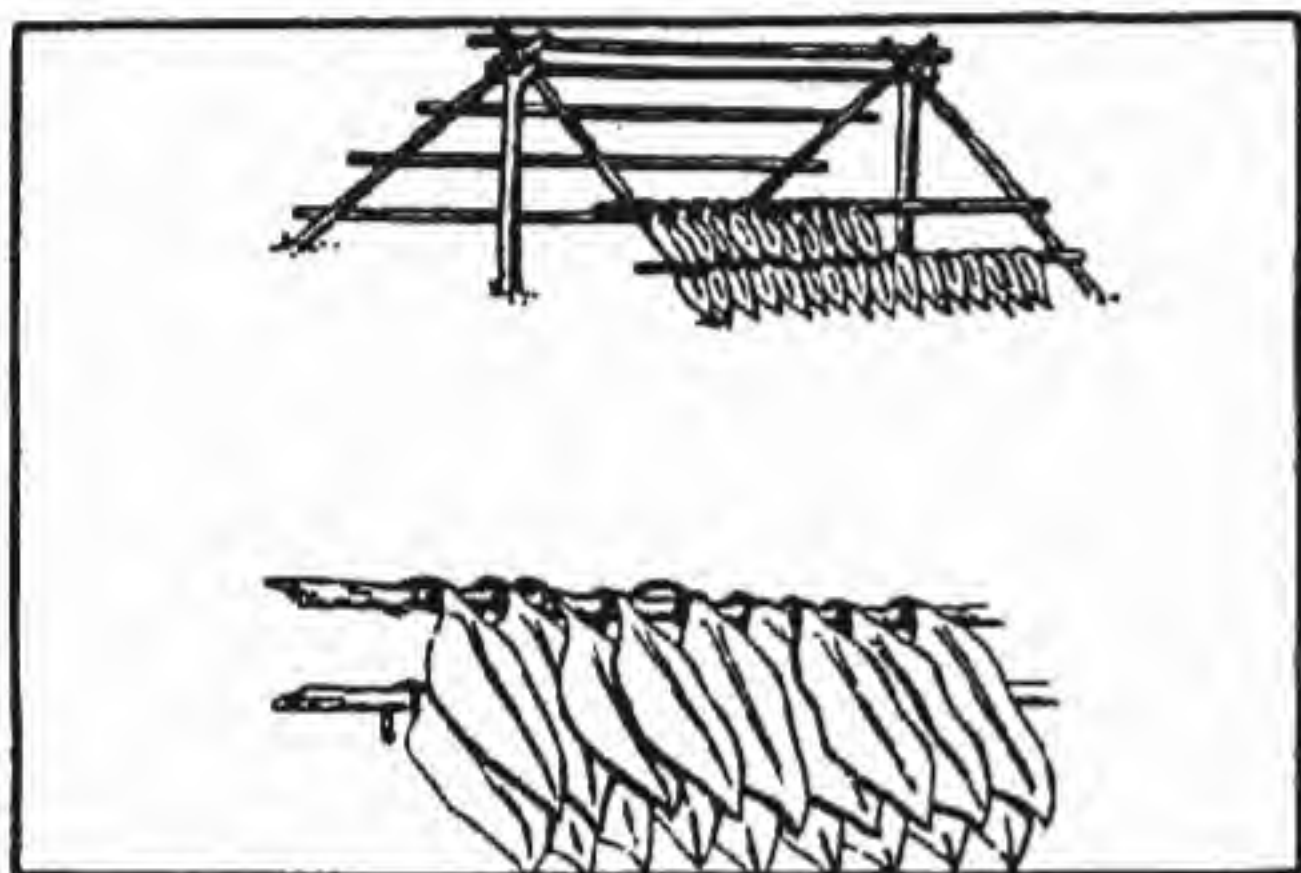

Figure 5. A-type framework.
(1) Simple parachute shelter made by draping a parachute over a rope or vine stretched between two trees.
(2) Thatch shelter (see figure 5) made by covering an A-type framework with a good thickness of palm or other wood leaves, pieces of bark, or mats of grass. Slant the thatch shingle fashion from the bottom upward. This type of shelter is considered ideal since it can be made completely waterproof. After you finish your shelter, dig a small drainage ditch just outside its lanes and leading downhill; it will keep the floor dry.